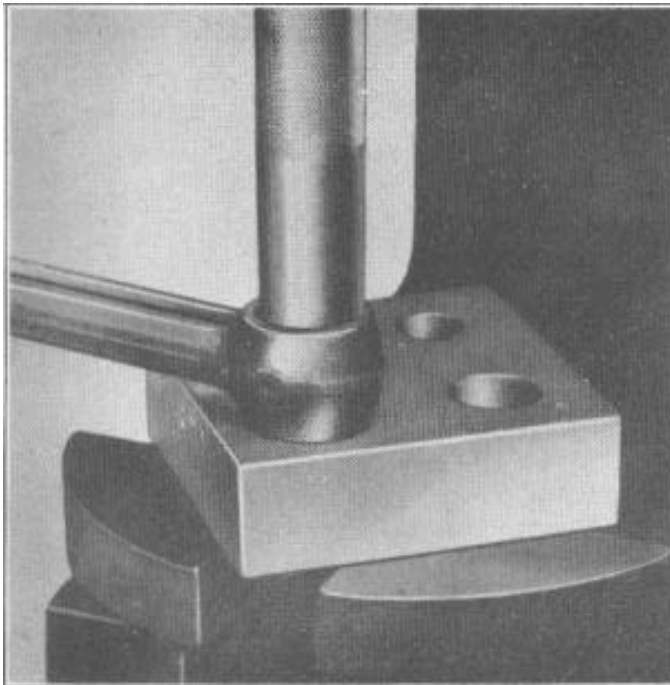

FIGURE 30
1. Press out old bushings by supporting the bushing end of the connecting rod on Bushing Burnisher Block J-2850 for 6 cylinder and J-2951 for 8 cylinder. Remove the bushing, Figure 30.